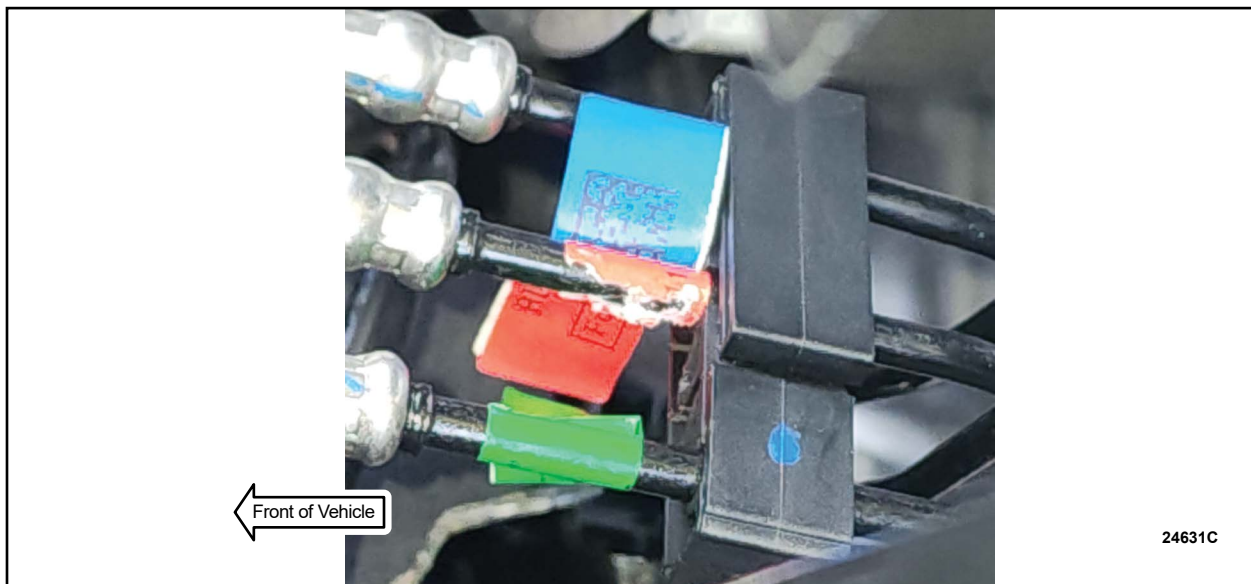

FIGURE 3
4. Secure the brake tubes into the clip and close the top of the clip. Verify the order of the brake tubes, starting from the driver's side, should be green, red, and then blue. See Figure 3.